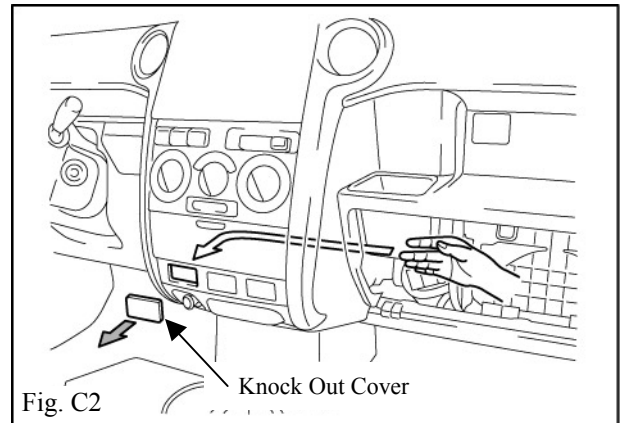

Fig. C2
2. Determine proper switch location. (Fig. C2)
- ➔ 3. Remove knock out cover from switch position shown. (Fig. C2)